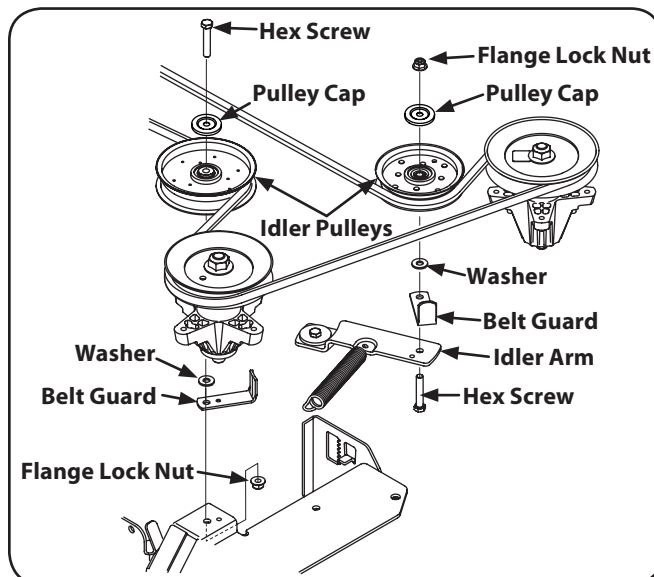

Figure 7-9
3. Remove the two idler pulleys by removing the hex screws and flange lock nuts that secure them to the deck and the idler arm. See Figure 7-9. Do not lose any of the hardware when removing the hex screw and flange lock nut.